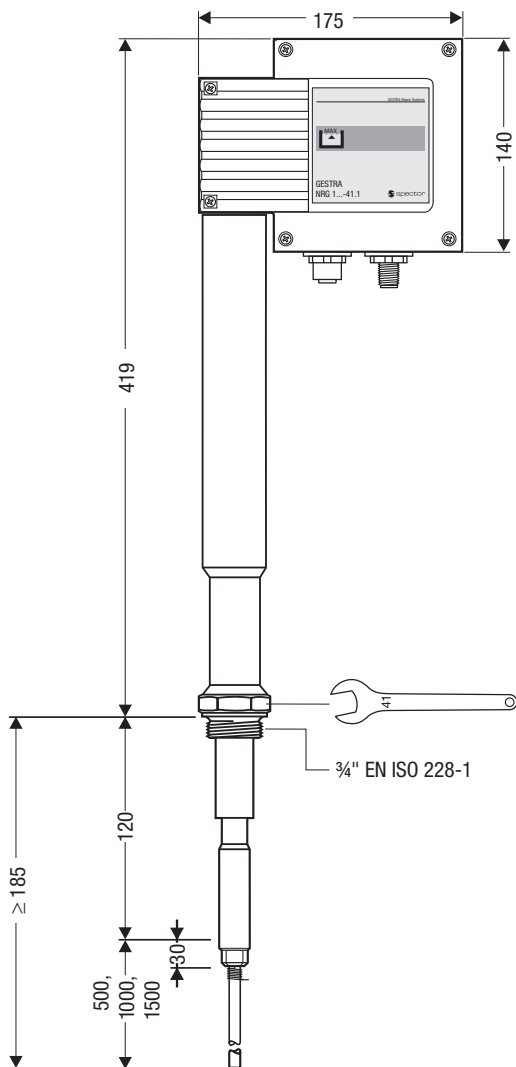

Fig. 3
Screwed $\frac{3}{4}$ " , EN ISO 228-1. **Fig. 2, Fig. 3**
2. Carefully determine required measuring length of electrode. Observe min. length, Fig. 2, Fig. 3.
3. Mark length of electrode tip ④.
4. Unscrew electrode tip ④ from measuring electrode ① and cut tip.
5. After visual inspection screw electrode tip ④ into measuring electrode ①. Slide spring ③ along electrode tip ④, so that its end completely enters into small bore ②.